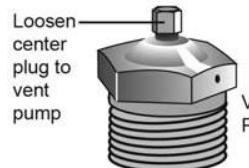

Figure 5d
**REMINDER: Do not start the pump before priming or venting the pump (Figure 5d). Never operate the pump dry.**